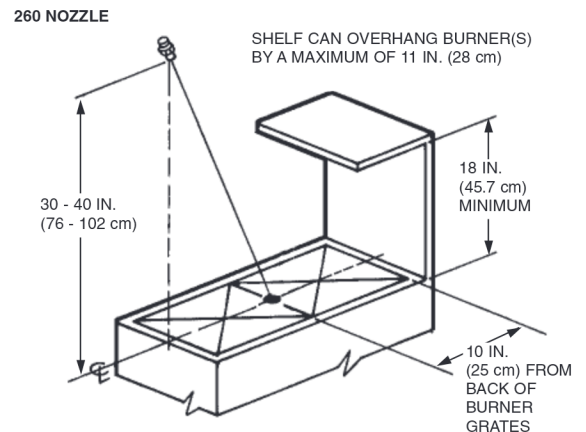

FIGURE 28
- Option 2: 260 Nozzle:** When using the 260 nozzle for range protection with or without back shelf, the maximum length of burner grates being protected must not exceed 32 in. (81 cm) and the maximum area of the burner grates must not exceed 384 sq. in. (2477 sq. cm). Nozzle must be located on the front edge of the burner grates and aimed at a point 10 in. (25 cm) from the back edge of the burner grates. Nozzle must be mounted 30 to 40 in. (76 to 102 cm) above the hazard surface. See Figure 28.